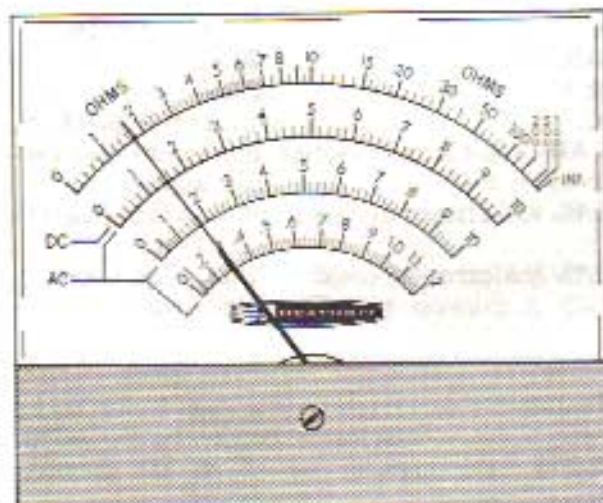

Figure 3
- (✓) Touch the tip of the DC probe (black) to the positive terminal of the 1.5 V battery and adjust the DC CAL control (on circuit board) for a 1.5 volt meter indication on the black scale, as shown in Figure 3. (If other DC voltages that are known to be more accurate are available, they may be used to further check the DC Calibration.)